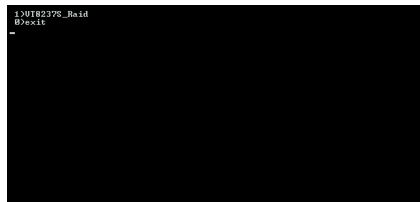
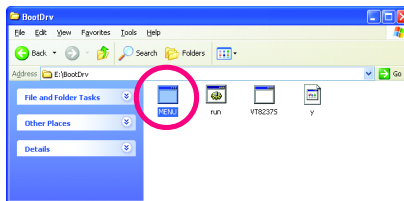

Figure 2
Figure 3
Step 2: When the controller menu (Figure 2) appears, remove the startup disk and insert the blank formatted disk. Select the controller driver by pressing the corresponding letter from the menu. For example, from the menu in Figure 2, press <1> to select 1)VT8237S_Raid for Windows operating system.
Use an alternative system and insert the motherboard driver disk. From your optical drive folder, double click the **MENU.exe** file in the **BootDrv** folder (Figure 3). A command prompt window will open similar to that in Figure 2.